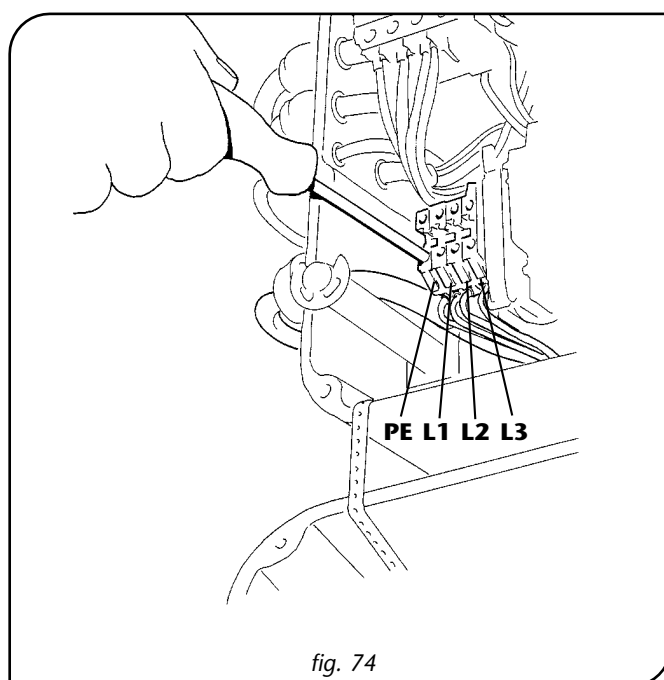

fig. 74
5. Connect the quadripolar line cable in the respective clamps -L1-L2-L3-, connecting the yellow/green conductor to the earthing clamp (PE) and taking care to clamp completely the clamps to prevent uncertain contacts (fig. 74).